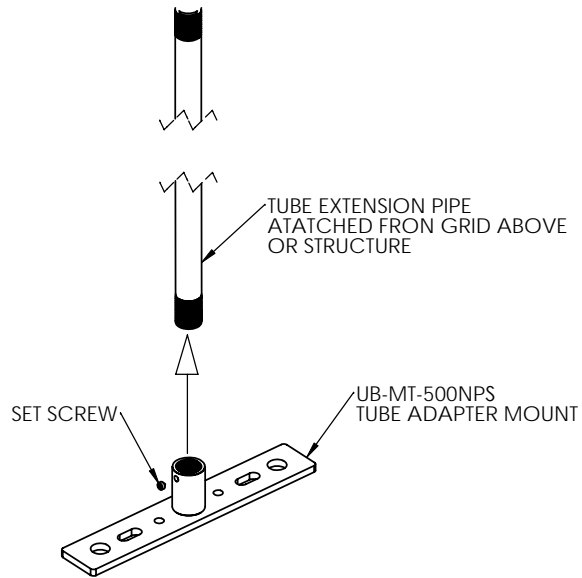

FIGURE 1
2. ATTACH UB-MT-500NPT TO THE TUBE EXTENSION FROM ABOVE. MAKE SURE TO LOOSEN THE SET SCREW SO THAT THE TUBE EXTENSION CAN EASILY SCREWED INTO THE COUPLING OF THE TUBE ADAPTER MOUNT. DO NOT TIGHTEN THE SET SCREW YET UNTIL FINAL SPEAKER DIRECTION IS SET (FIGURE 1).
3. ATTACH THE U-BRACKET WITH SPEAKER (OPTIONAL TO ATTACH SPEAKER TO U-BRACKET) TO THE UB-MT-500NPT USING THE PROVIDED SCREWS, NUTS AND FLAT WASHERS. TIGHTEN PERMANENTLY. MAKE SURE TO USE THE APPROPRIATE BOLTS TO U-BRACKET AND THE TUBE ADAPTER MOUNT (FIGURE 1). TIGHTEN BOLTS PERMANENTLY.
4. TIGHTEN SET SCREW ON THE COUPLING TO SECURE THE PIPE FROM ROTATING (FIGURE 1 AND 2)